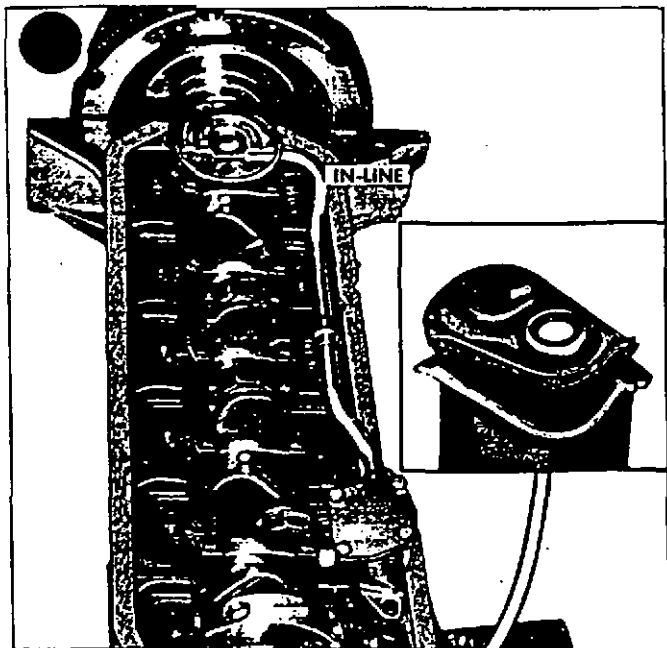

Fig. 6L—Pan Gaskets and Seals
4. Install side gaskets on cylinder block (fig. 6L).